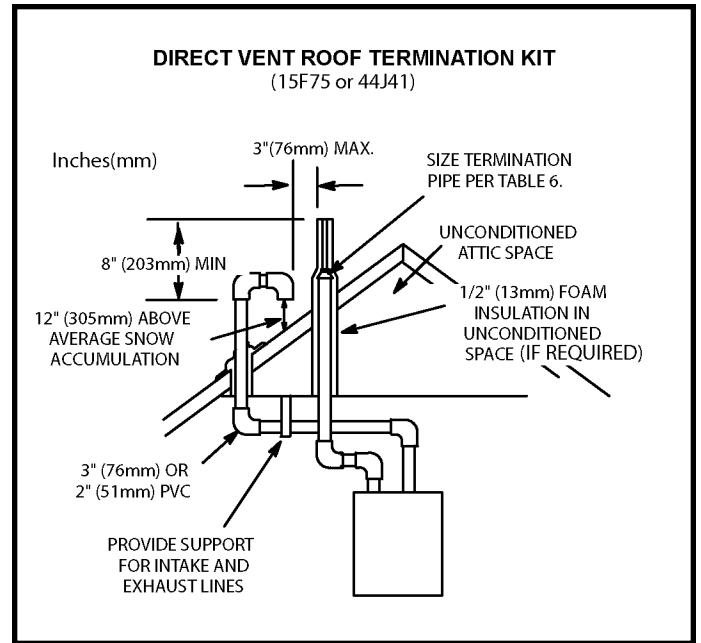

Figure 35
Intake and exhaust pipes may be routed either horizontally through and outside wall or vertically through the roof. In attic or closet installations, vertical termination through the roof is preferred. Figures 35 through 43 show typical terminations.
3. On roof terminations, the intake piping should terminate straight down using two 90° elbows (See Figure 35).